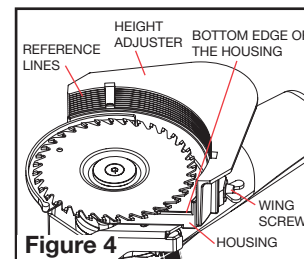

Figure 4
## HEIGHT ADJUSTMENT: see Figure 4
- Use the reference lines as a guide (Fig. 4). The housing must be set parallel to the floor. Make certain that the bottom edge of the housing is set parallel with a